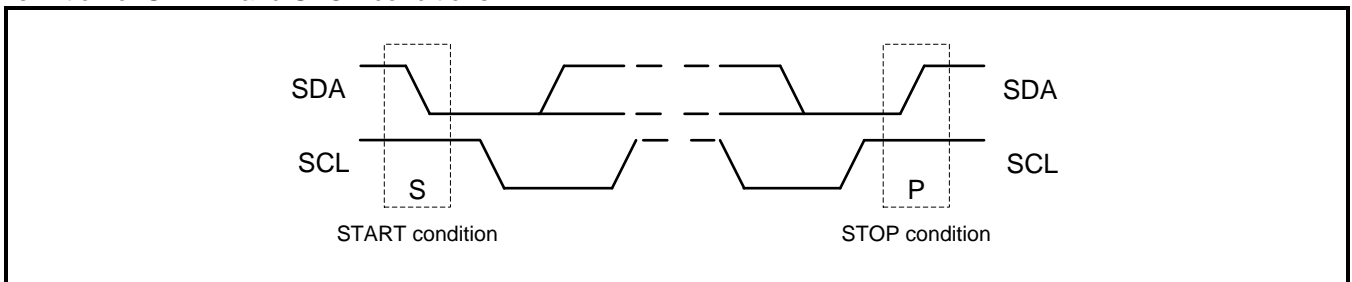

Figure 7-26 I²C Start and Stop Conditions
Both data and clock lines remain HIGH when the bus is not busy. A HIGH-to-LOW transition of the data line, while the clock is HIGH, is defined as the START condition (S). A LOW-to-HIGH transition of the data line, while the clock is HIGH, is defined as the STOP condition (P) (see Figure 7-26 I²C Start and Stop Conditions).